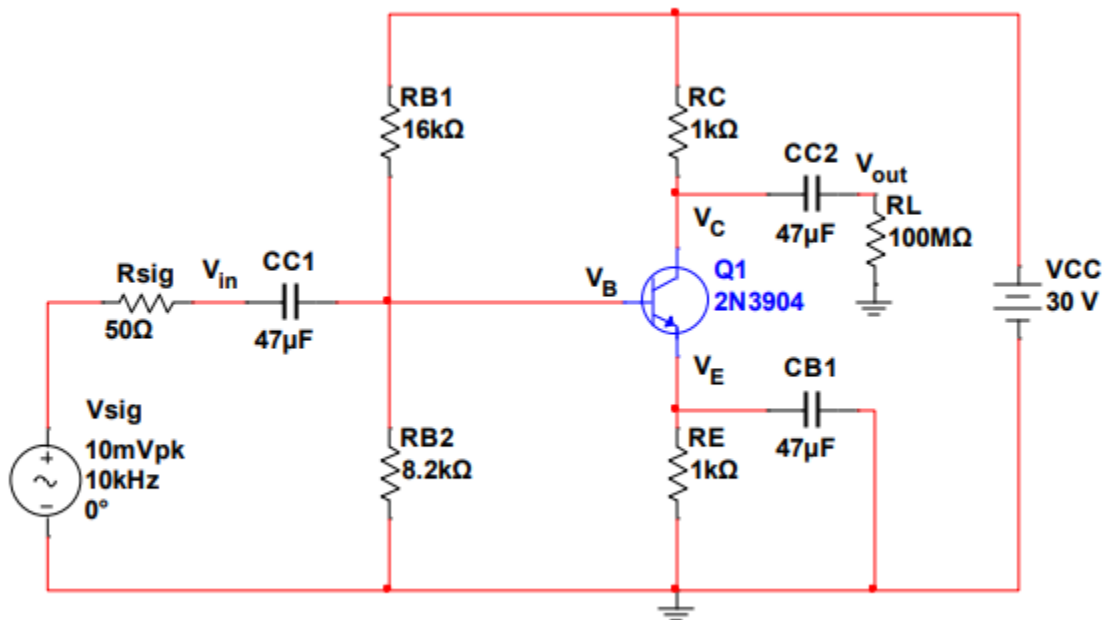

Figure 2.1 – Common Emitter Amplifier
1. **Build** the circuit in **Figure 2.1** using transistor 2N3904.